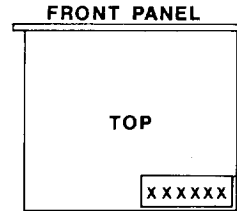

Figure 6. Sample System Configuration Label
4. On the top cover is a **System Configuration Label**. Use it to indicate the module type, configuration, and options (if any) for future reference. Write directly on the label with a permanent marker. A sample label is shown in Figure 6 for reference.